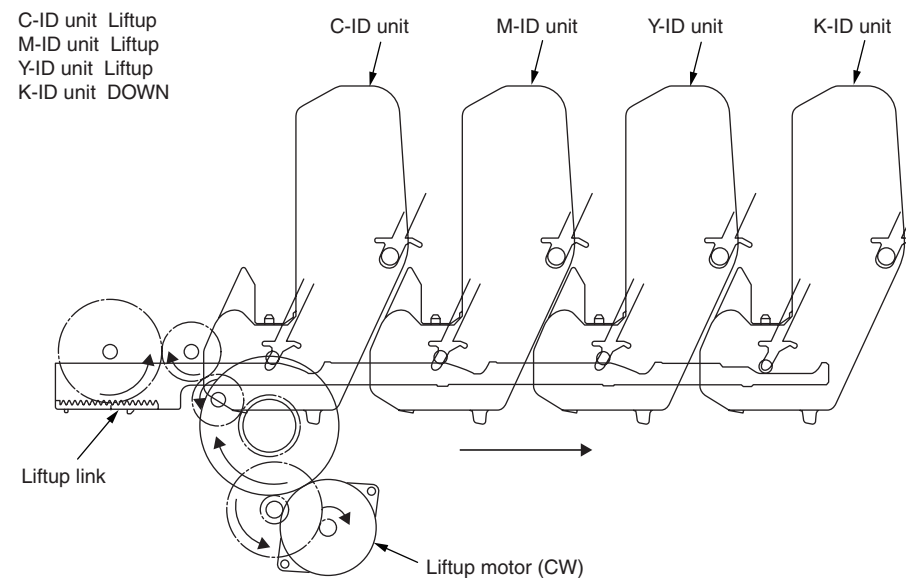

Figure 2-7
3. Fig. 2-7 shows the operation of each ID unit when mono printing. When the liftup motor is rotated (clockwise), the liftup link slides to right, and each ID unit (except K-ID unit) is in UP condition as shown in Fig. 2-7. Under this condition, the mono printing is available.